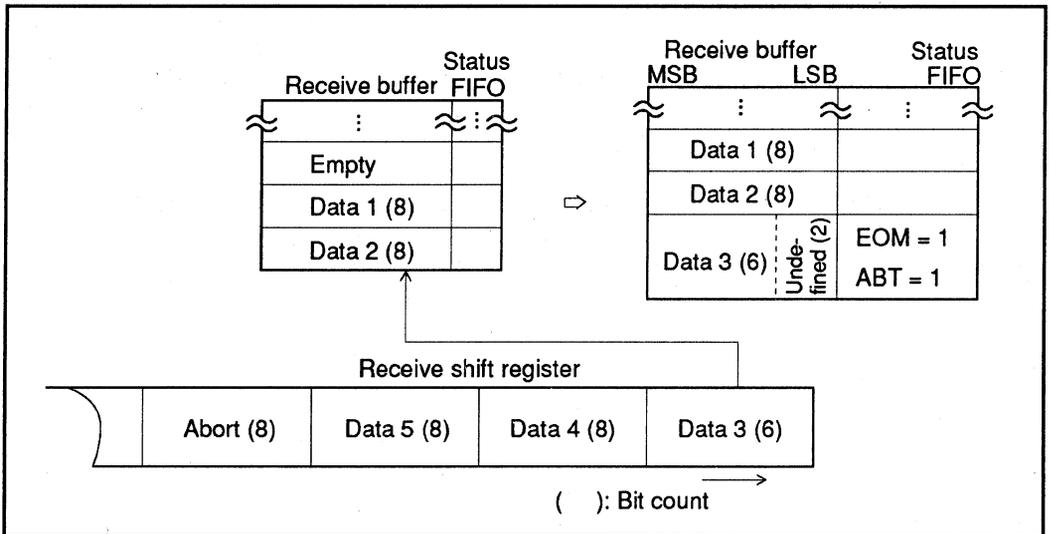

Figure 5-4 Abort End Frame Reception Operation (CRCCC = 1)
Abort End Frame Reception Operation: An abort end frame reception operation is shown in figure 5-4. Abort end frame data is transferred from the receive shift register to the receive buffer, and the abort end frame status is set in the status FIFO.
1. Part of the aborted data (data 3 in figure 5-4) is transferred from the receive shift register to the receive buffer. (Data 4 and 5 in figure 5-4 are not transferred to the receive buffer.) At this time, the bits other than this data are undefined.